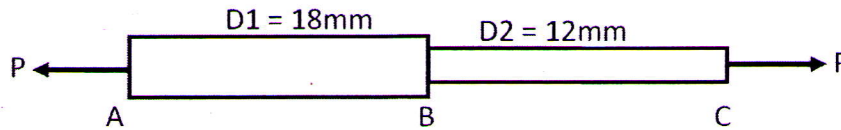

Figure 1
- 11 The steel bar shown fig:1 has the following dimensions: (14)